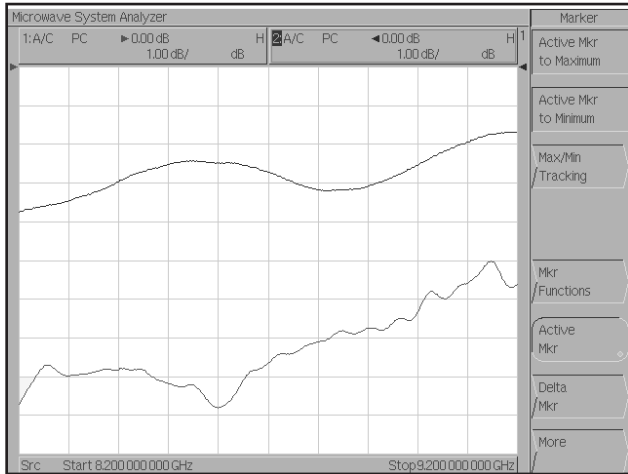

Fig. 10 LO Port Return Loss Measured at Two Power Levels.
**[SELECT MEAS]** then vary the LO power as before. To hold this measurement in memory **[DISPLAY]** [Hold ●]. The results of these measurements are shown in Fig. 10.